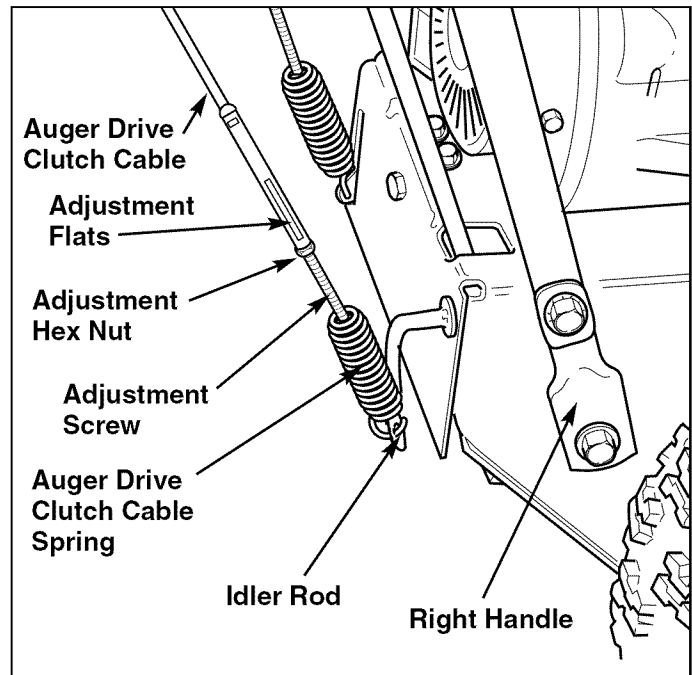

Figure 21. Auger Drive Clutch Cable Adjustment
1. Loosen adjustment hex nut (Figure 21) by holding the adjusting flats and turning adjustment hex nut .